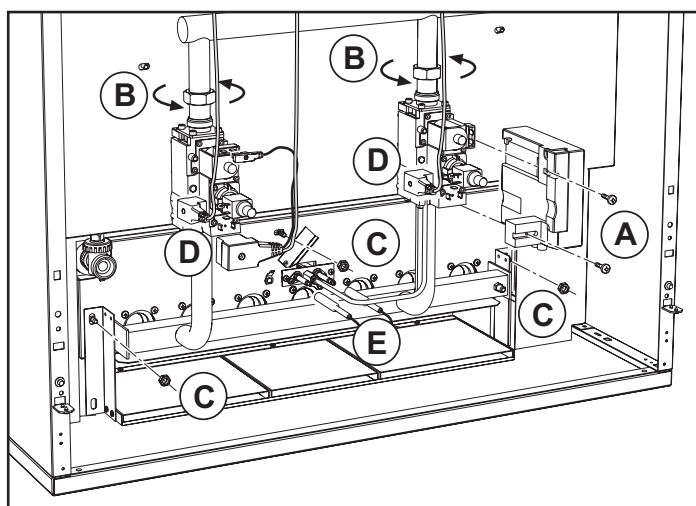

fig. 10 -
- Undo the two screws (A fig. 10 and 11) securing the electronic flame controller to the gas valve and remove the controller from the valve.
- Undo the screws securing the connectors (D) to the gas valves and remove the connectors from the valves.
- Disconnect the ignition and ionisation cables (E) from the electrode assembly;
- Undo the nuts (B) securing the gas supply pipe ahead of the gas valves.
- Undo the nuts (C) securing the combustion chamber door to the cast iron elements of the boiler.